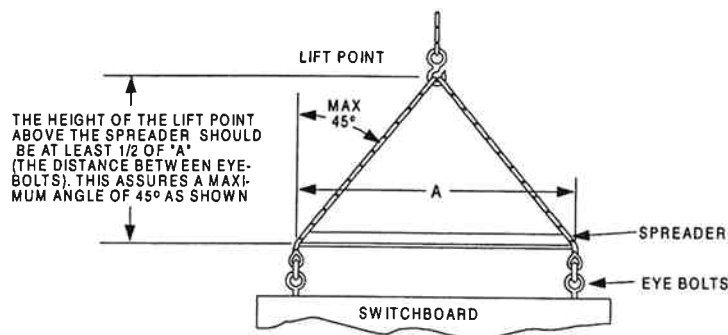
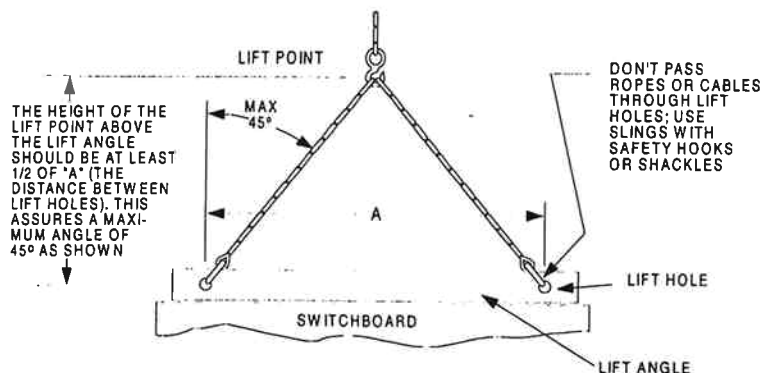
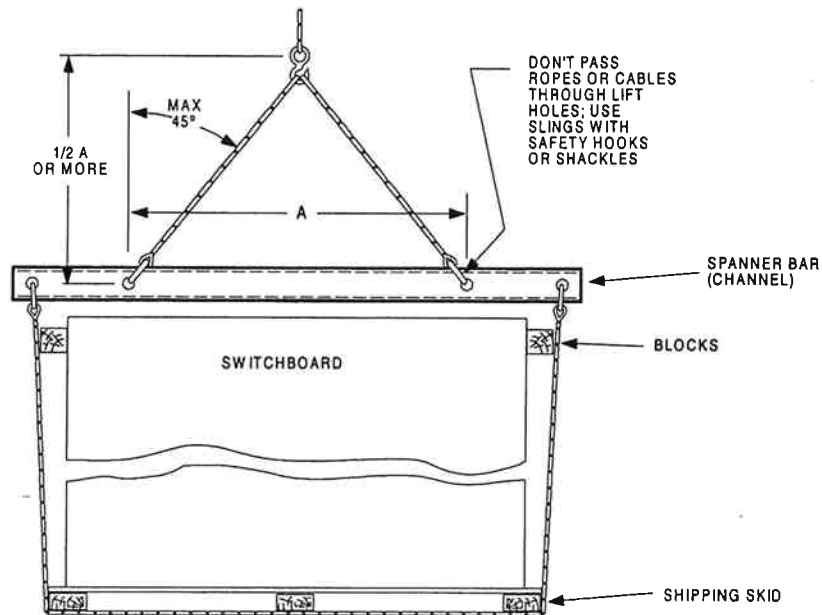

Figure 2-1
Figure 2-2
Figure 2-3
- 2.10** When it is necessary to move the switchboard between elevations without a suitable platform elevator, overhead hoisting may be required. Lifting plates and eye bolts (Figure 2-1), or channels, angles, or bars with lift holes (Figure 2-2) may be provided as a permanent or removable part of the switchboard. If they are not, cable, chain, or band slings (Figure 2-3) may be rigged around the switchboard.
- 2.10.1** Use rigid spreaders (Figure 2-1) or spanner bars (Figure 2-3) to provide the vertical lift on eye bolts and lifting slings to avoid crushing or otherwise damaging the frame or its finish. Lifting bars on long lineups may require additional spreaders to reduce the horizontal compressive force.